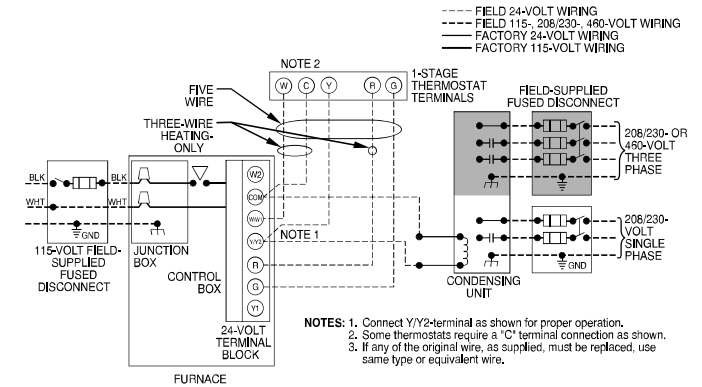

Fig. 24 – Typical Field Wiring Diagram
See Fig. 24 for field wiring diagram showing typical field 115-V wiring. Check all factory and field electrical connections for tightness.
- Connect line voltage leads. (See Fig. 24).
Make field 24-V connections at the 24-V terminal strip. (See Fig. 24 - Fig. 29). Connect terminal Y/Y2 as shown in Fig. 30 for proper cooling operation. Use only AWG No. 18, color-coded, copper thermostat wire. The 24-V circuit contains an automotive-type, 3-amp. fuse located on the control. Any direct shorts during installation, service, or maintenance could cause this fuse to blow. If fuse replacement is required, use ONLY a 3-amp. fuse of identical size.